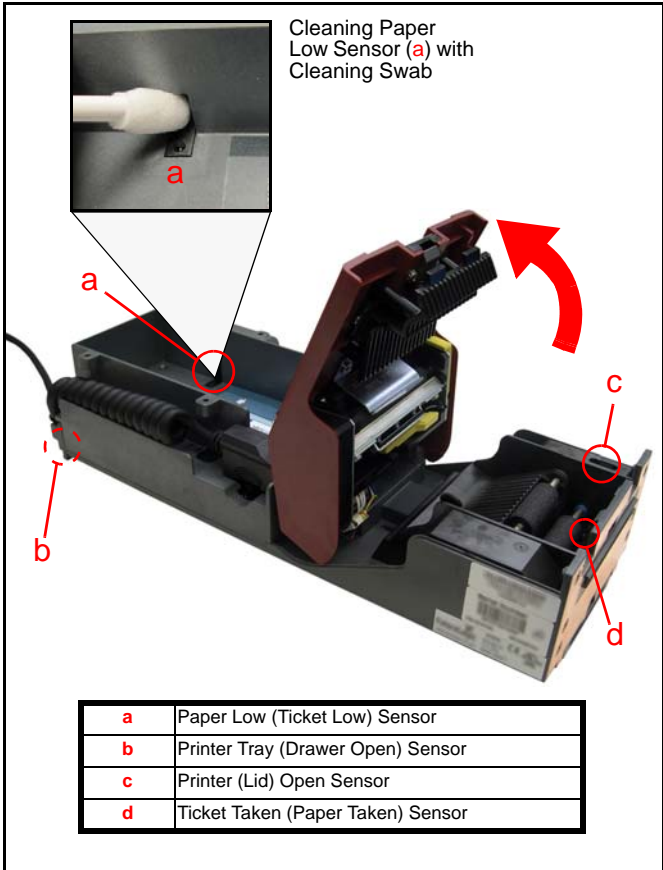

Figure 16 Sensor Locations
8. Clean each of the Sensors using a clean Cleaning Swab (Figure 16).